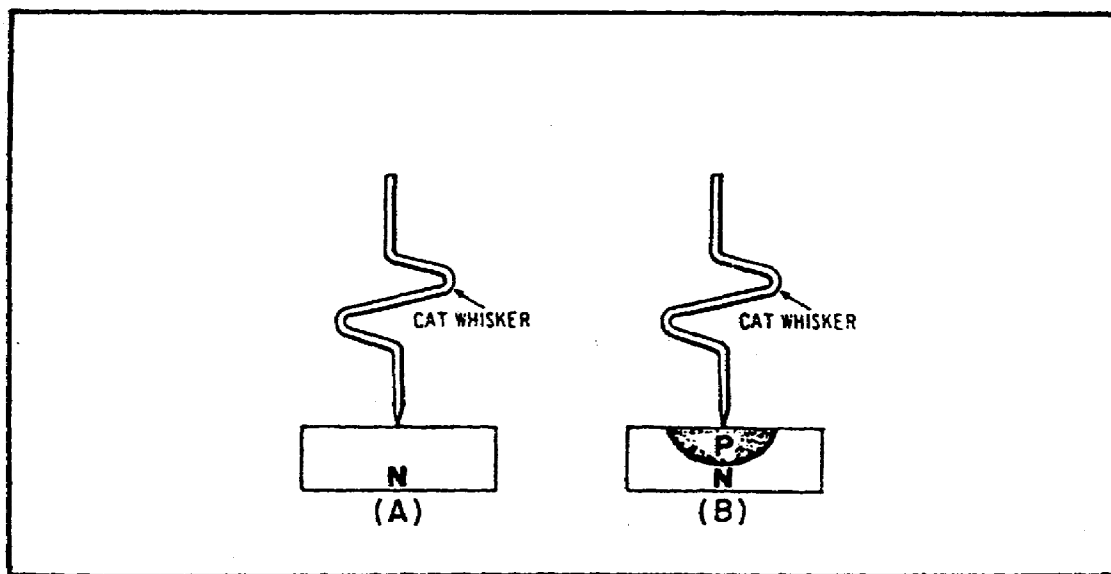

FIGURE 78. POINT-CONTACT TYPE OF DIODE CONSTRUCTION.
(3) *Point-Contact*. Figure 78 on the following page shown a POINT-CONTACT type of construction. It consists of a fine metal wire, called a cat whisker, that makes contact with a small amount of a N-type semiconductor as shown in view A of figure 78. The PN union is formed in this process by momentarily applying a high-surge current to the wire and the N-type semiconductor. The heat
generated by this current converts the material nearest the point of contact to a P-type material as shown in figure 78, view B.